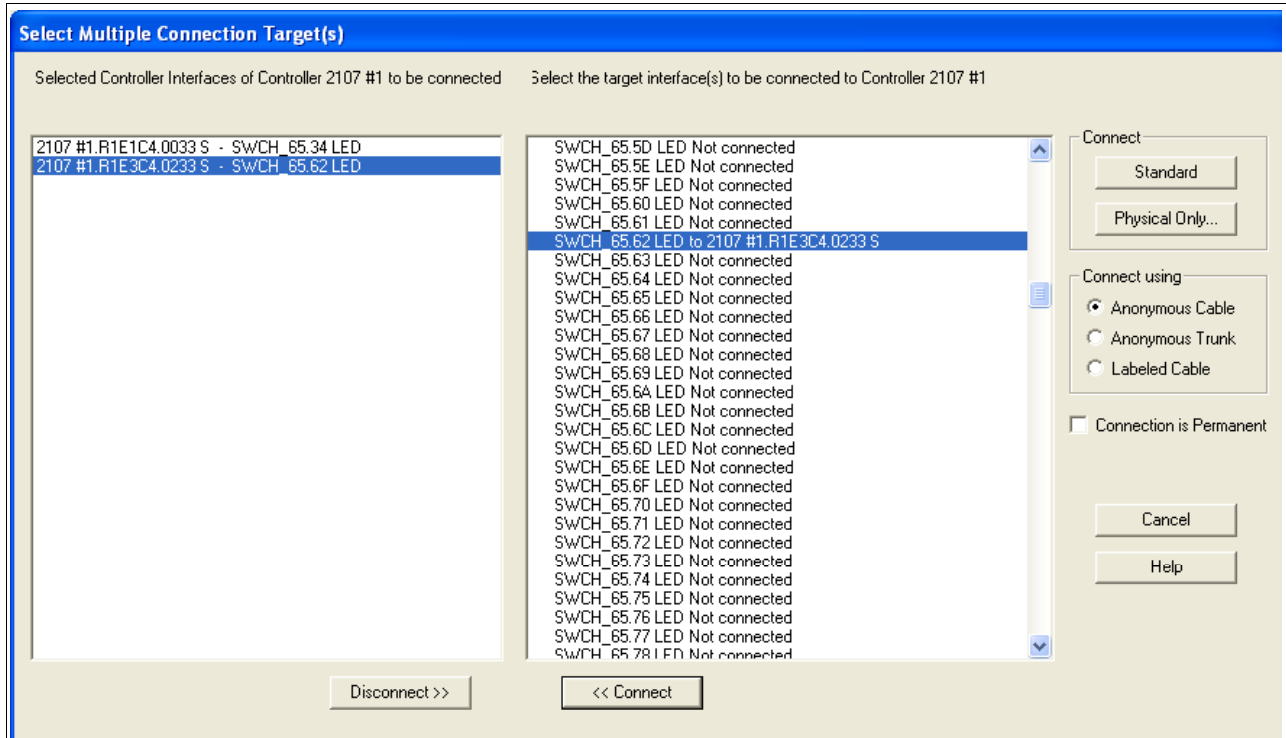

Figure 6-20 HCM Connecting to DS8000 interfaces to Switch Ports
20. Perform the same action for Controller interface 0233. See Figure 6-20 on page 172.